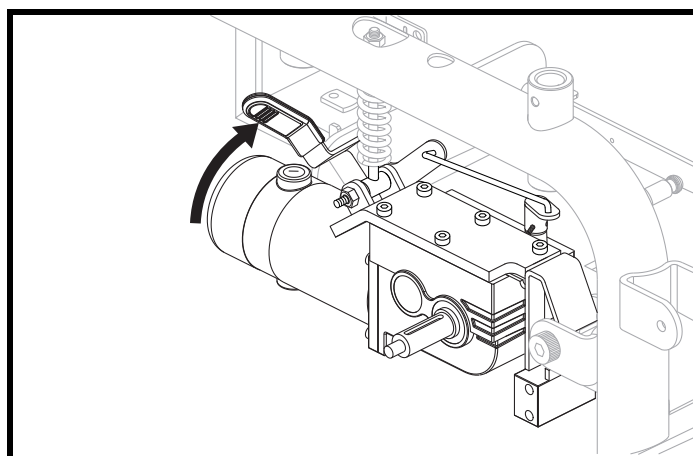

Figure 9a. Drive Mode (Drive Engaged)
2. Pull the manual freewheel lever up on each motor for drive mode (drive engaged). See figure 9a.